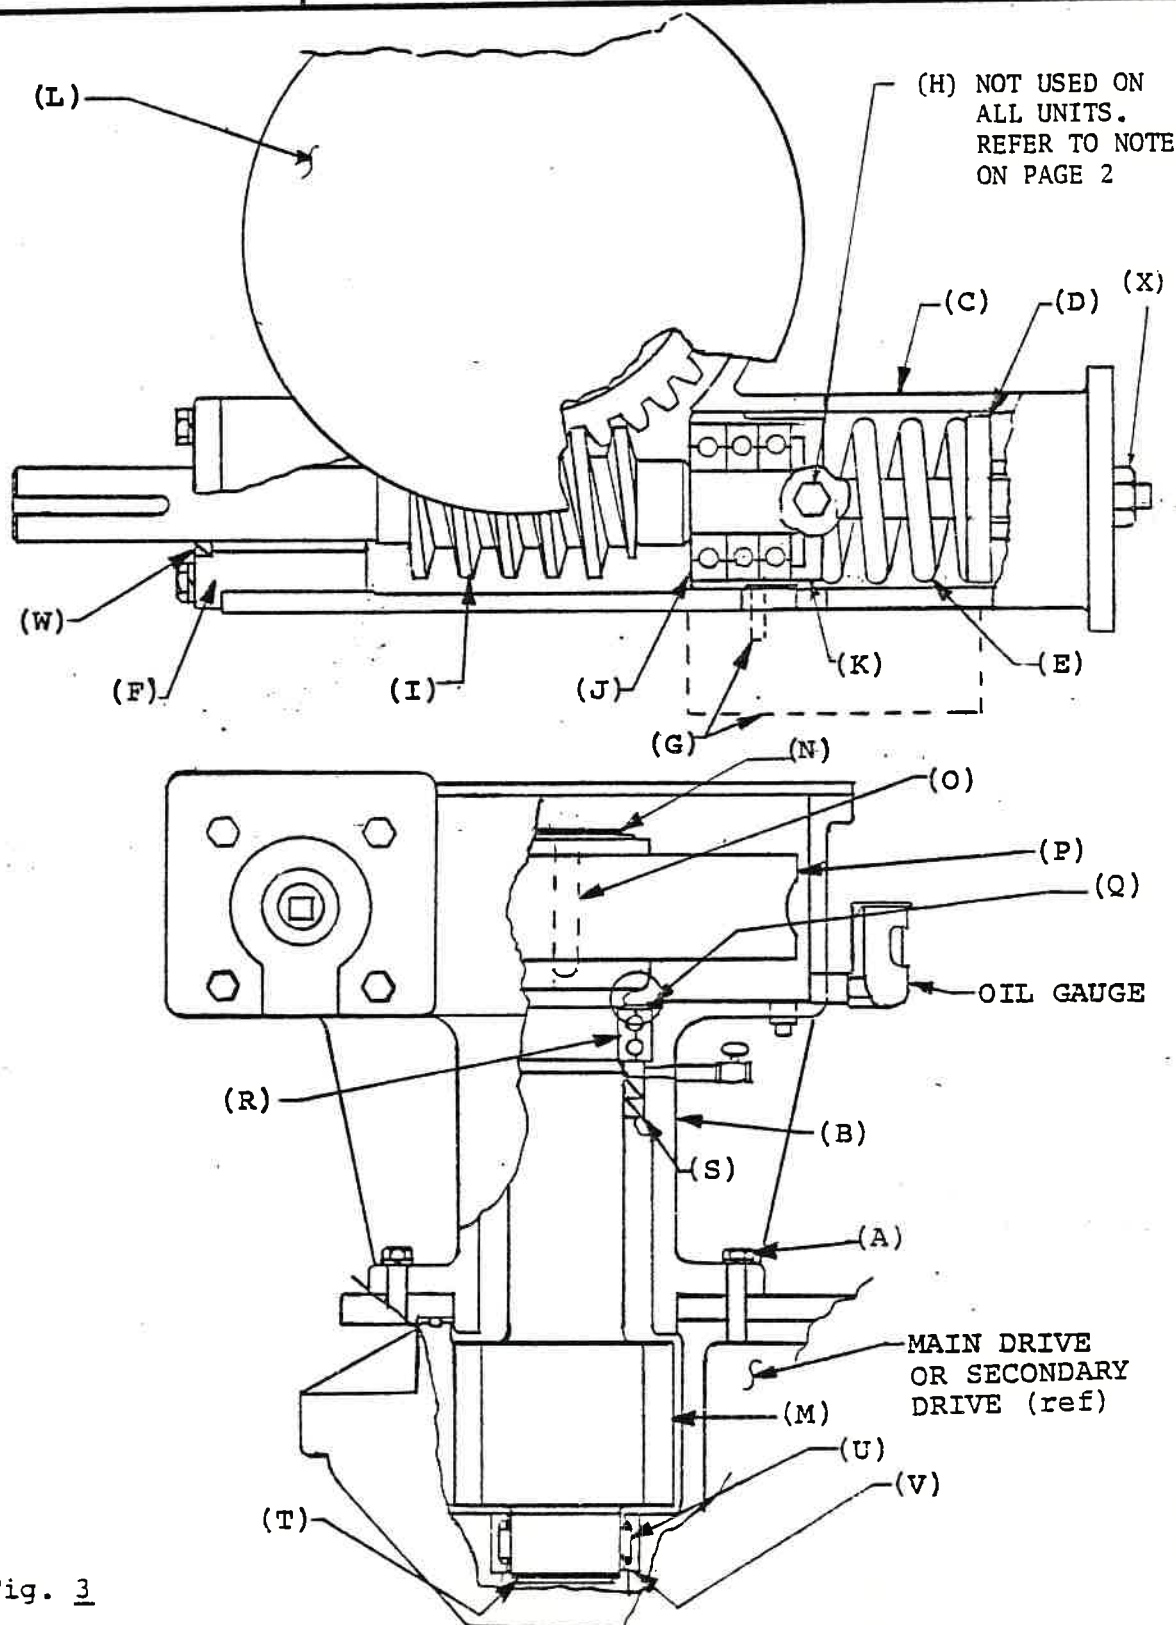

Fig. 3
3. Remove the capscrews (A), connecting the worm housing (B) to the main drive (refer to Fig. 3).